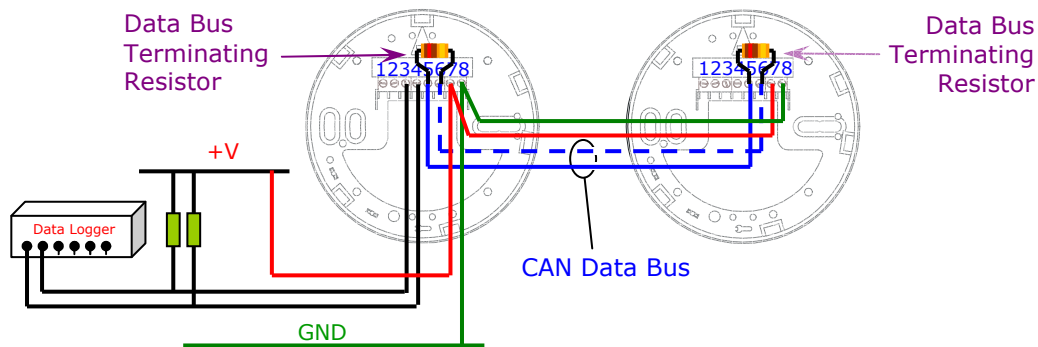

Fig. 3
- 1.5 If configuring a wide opening network of two or more units, to count through a wide opening, units should be mounted no further apart than the maximum separation shown on document IPU40188 'IRC3000 Series Mounting Height Graph'. All units should be positioned with their 'Traffic Flow Direction Arrows' pointing in the same direction. A wiring example is shown below in Fig. 3. There can be maximum number of 8 units connected in a 'daisy-chain' style. A 120ohm terminating resistor (supplied) must be connected at the first and last unit position across the data bus lines.